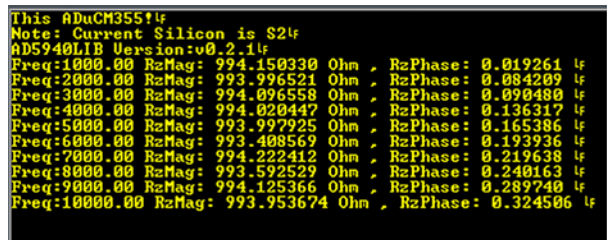

Figure 25. Impedance Results
5. When the impedance measurement completes, the results are sent to the UART (see Figure 25). Save the results in a Microsoft Excel file for further analysis, if necessary.